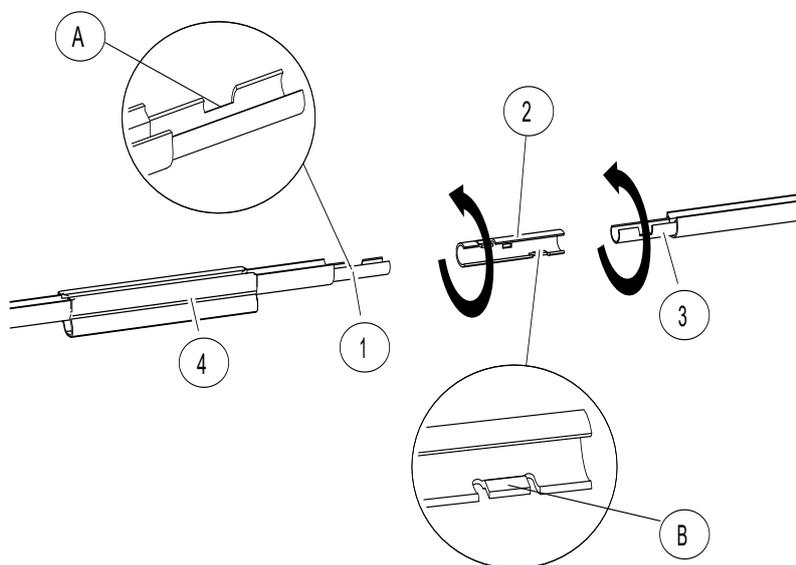

Fig. 56: Mounting the bayonet connector
- Slide the bayonet connector (2) onto the conductor rail (1) so that the tab (B) and the notch (A) are at the same height (see Fig. 56).
- Turn the bayonet connector (2) 90° so that the tab (B) snaps into place (see Fig. 56).
- Slide the second conductor rail (3) into the bayonet connector so that the tab (B) and the notch (A) are at the same height (see Fig. 56).
- Turn the second conductor rail (3) by 90°, so that the tab (B) locks into place (see Fig. 56).
- Slide the one-piece connector cap (4) over the bayonet connector and snap into place or attach a two-piece connector cap. The connector caps must hook into the lower part of the insulating profile.